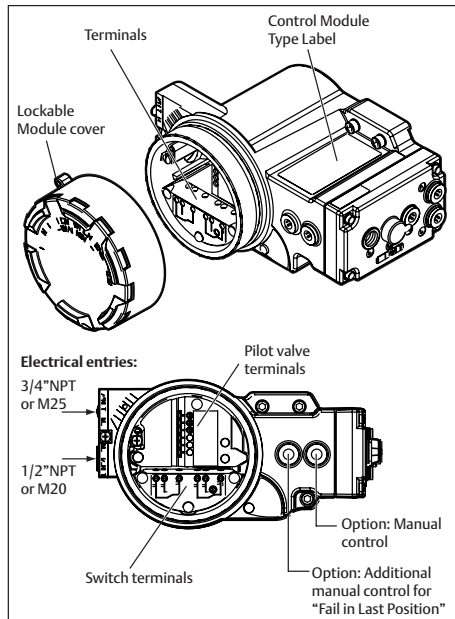

Fig. 4.1 Terminal connections behind cover.
2. Remove control module cover (see figure 4.1).
5. Mount the control module cover to the housing (see figure 4.1) or continue with chapter 5. Take care that the cover seal is in place to comply to dust and water tightness according to IP66 or NEMA4X.